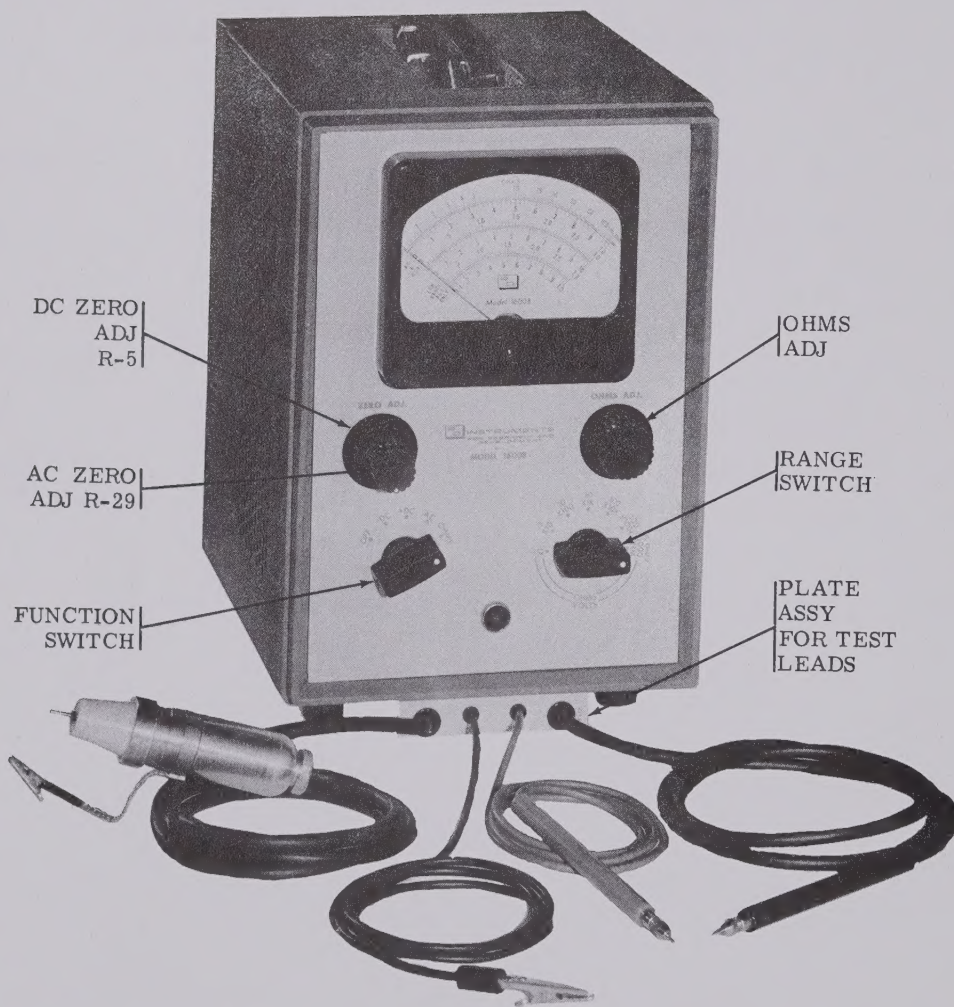

Figure 1-1. Model 1600B - Vacuum Tube Voltmeter
1-4. DESCRIPTION. See Figure 1-1.
a. Balance of the bridge is accomplished by varying the screen potential with the DC ZERO ADJUST control R5, (figures 1-1 and 3-2) until the currents through the cathodes are equal (with no voltage applied to the grid of V2).